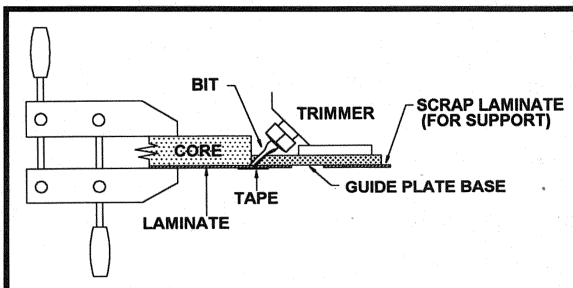

Fig. 4
- Place tape on the FACE side of a scrap piece of laminate. **NOTE:** This tape should be opposite the cutting path of the bit, as shown in Fig. 4.
- Place the trimmer to the laminate with the edge of the guide plate against the core (see Fig. 4), and make a test cut moving from right to left.